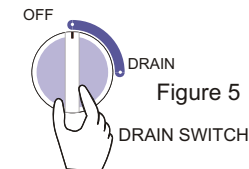

Figure 5
6. After washing, set the "WASH SELECTOR" at "DRAIN". (Figure 5).